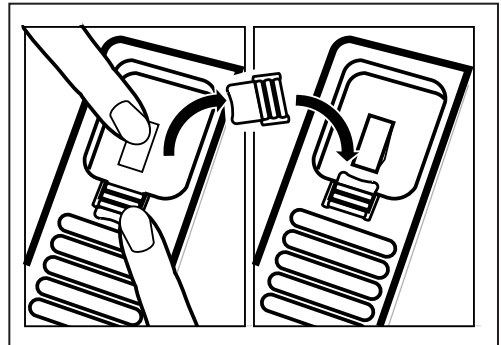

Figure 5 - Reversing the Hook
1. Pull the handset hook out as shown in Figure 5 and reverse its position so that the